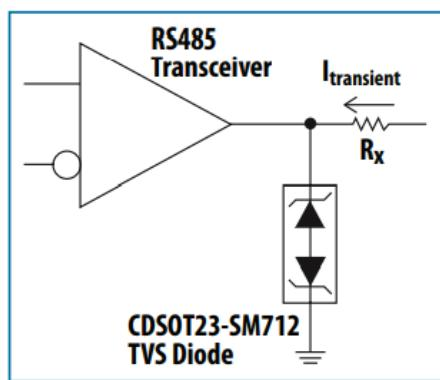

Figure 45: TVS diode plus resistor.
- Furthermore, the single-stage TVS diode solution will provide effective clamping of the transient signal up to the peak impulse current, I_{PP} , of the TVS diode. I_{PP} is the maximum current the TVS diode can be subjected to without failure. As the TVS diode is exposed to higher transient voltages, concern for exceeding this device's current limitation rises as well. Current limiting must be used to keep I_{PP} within its rated limit. A TVS diode with series resistance R_x , shown in figure 45, is effective for low level transients. As the transient voltage increases, the power rating (and physical size) of the TVS diode and series resistance also must increase to limit the TVS diode's current below the device's I_{PP} (peak pulse current rating).